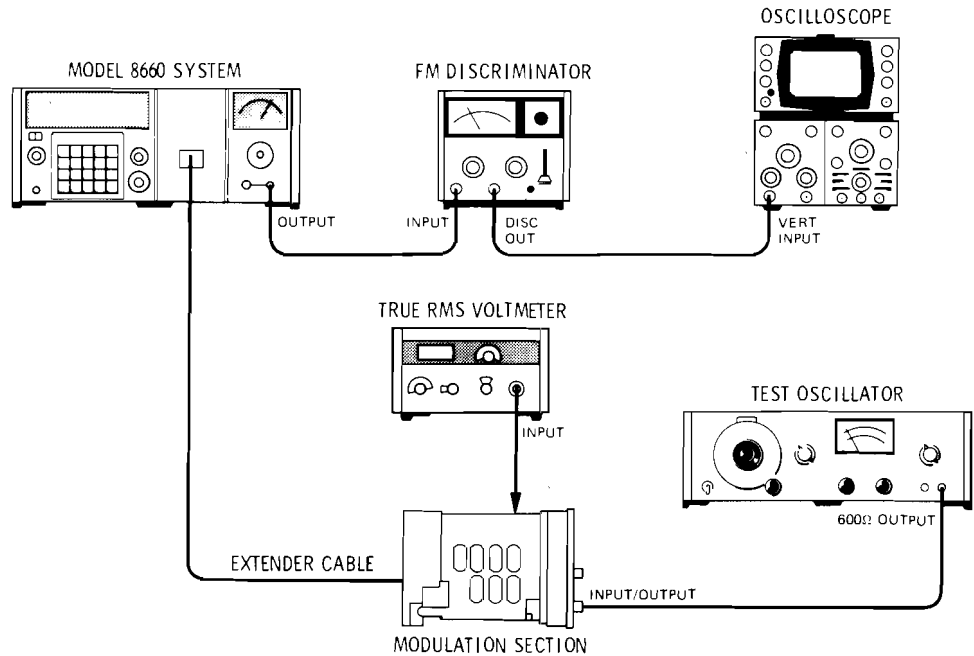

Figure 5-5. FM Deviation Attenuator Adjustment Test Setup
1. Set the MODE switch to FM X0.1, the SOURCE switch to DC, and the MODULATION LEVEL control full clockwise. Connect equipment as shown in Figure 5-5.
9. Reconnect the equipment as shown in Figure 5-5.